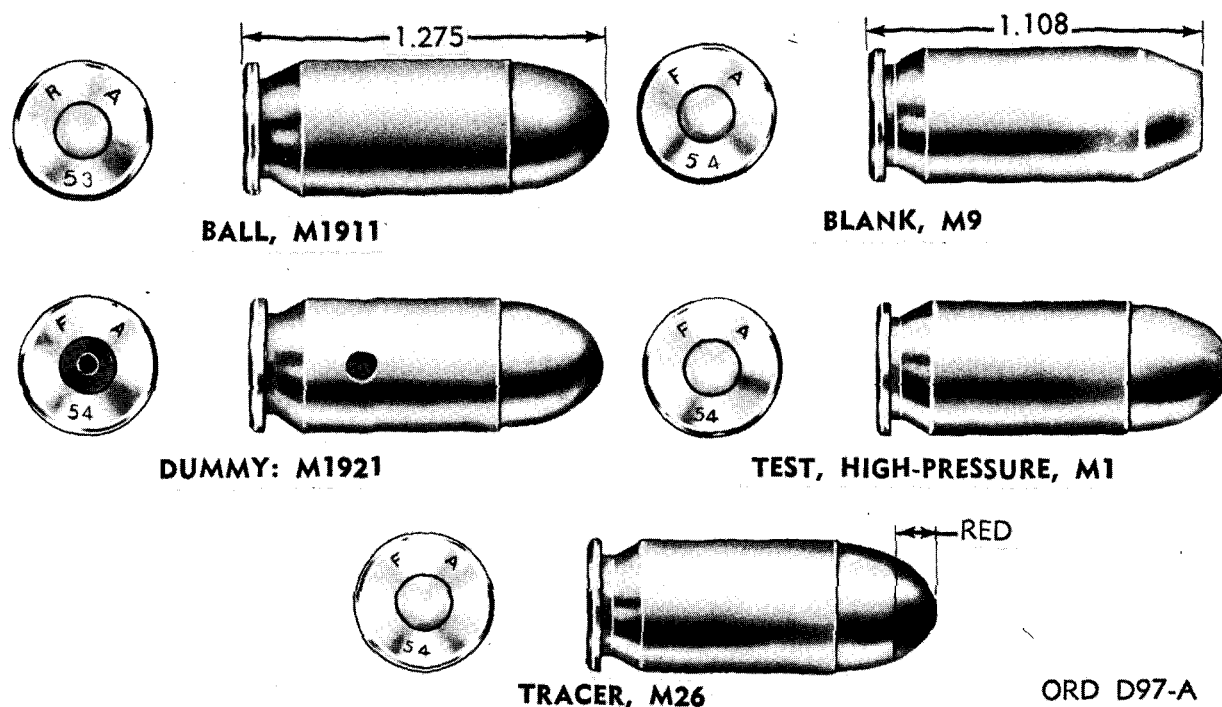

Figure 31. Caliber .45 cartridges.
a. Ammunition for caliber .45 weapons is shown in figure 31. Caliber .45 bullets are shown in figure 32. Table XIX lists the com-